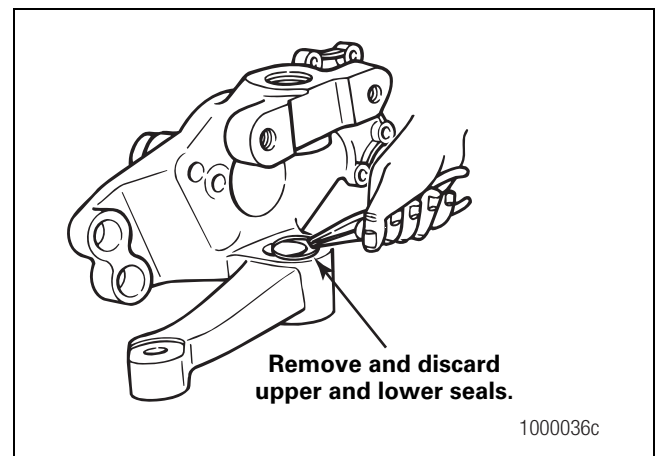

Figure 4.29
1. Remove and discard the lower king pin seal. Figure 4.29.